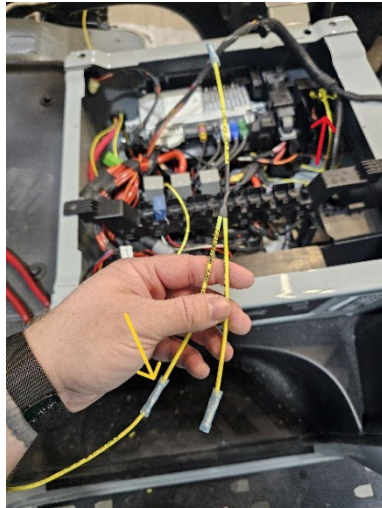

Figure 3
- Connect part # 5152028 harness jumper, to the ignition signal wire with one butt connector connected to the jumper wire, see Figure 3 Yellow Arrow, and the other two attached to each side of the cut ignition wire, see Figure 3 Red Arrow.